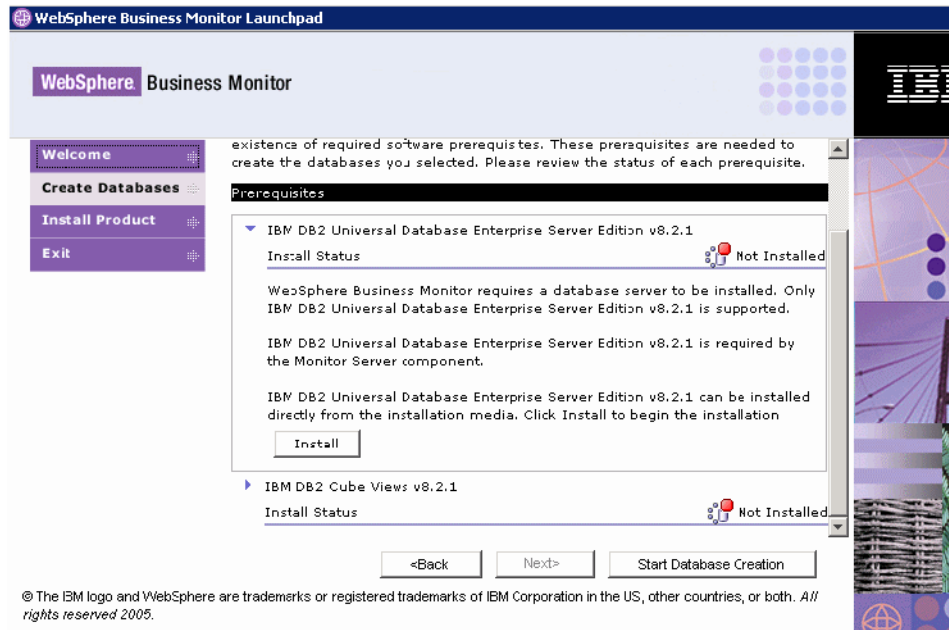

Figure B-4 Monitor Server installation: Pre-requisite verification
- ▶ The launchpad verifies the existence of the pre-requisites of DB2 and DB2 Cubes. If the pre-requisites are not installed you are notified (Figure B-4).